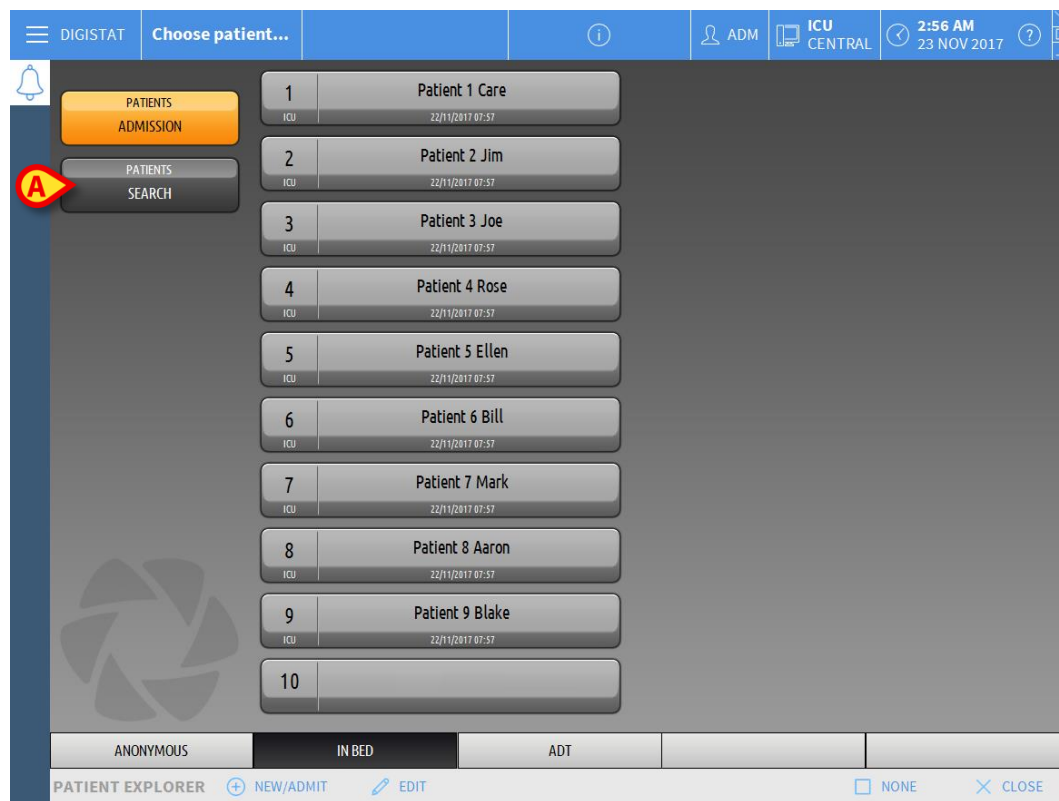

Fig 105
- Click the  button indicated in Fig 105 **A**